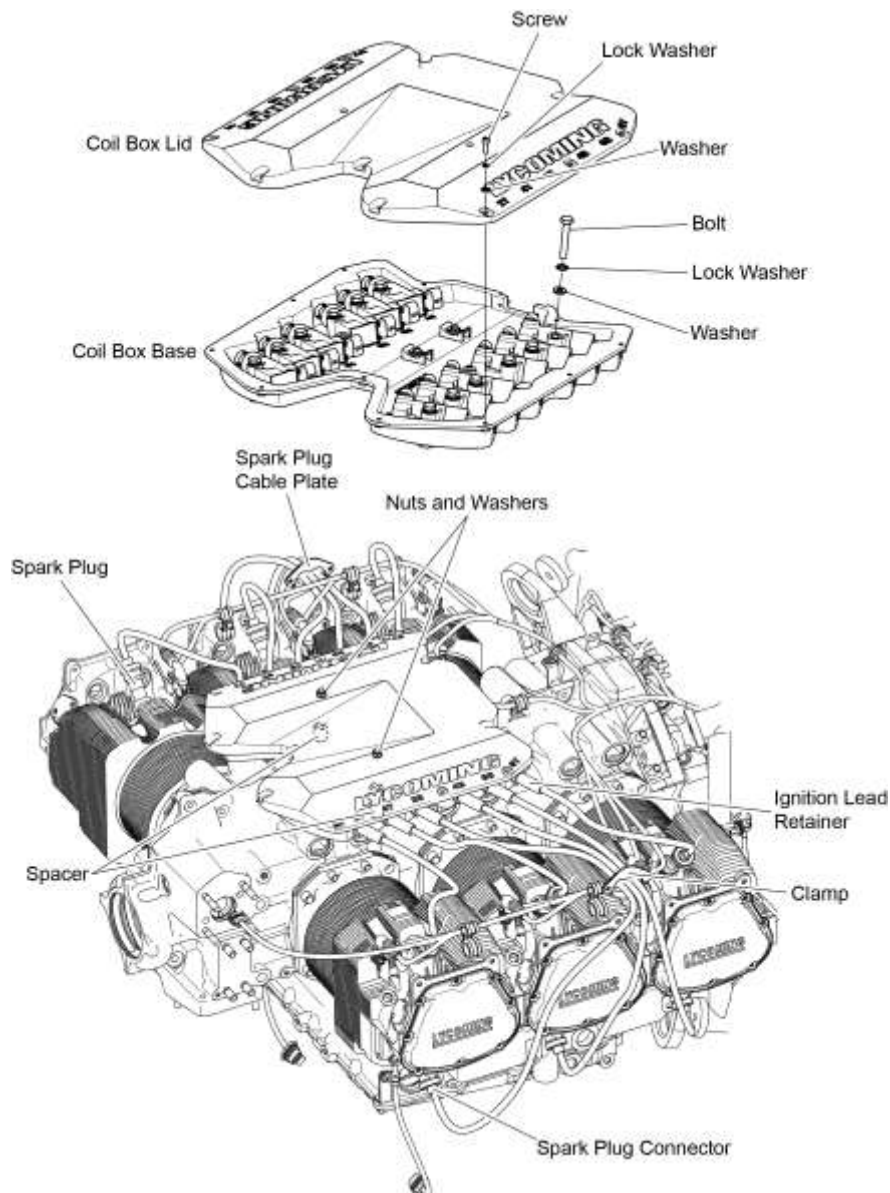

Figure 1
- (1) Remove the 15 screws, washers, and lock washers (Figure 1) from the coil box lid. Discard the lock washers.
- (2) Remove the two nuts and washers from the coil box lid.
- (3) Remove the coil box lid.
- (1) Install the coil box lid (Figure 1) with two nuts and washers and 15 screws each with a washer and new lock washer.
- (2) Torque the screws and nuts to the specified torque limits in the Standard Torque Tables in the latest revision of the *Service Table of Limits - SSP-1776*.